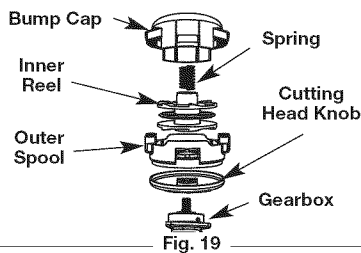

Fig. 19
2. Detach the bump cap either by letting it pop off, or a slight wiggle of the cap may be required to pull it off the outer spool (Fig. 19)
4. Place the inner reel back into the outer spool (Fig. 19).